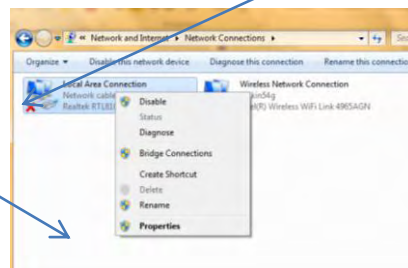

Fig 3
- d. When the Change adapter settings opens right click on "**Local Area Connection**" and click on "**Properties**" from the pop up menu. (Fig 3)